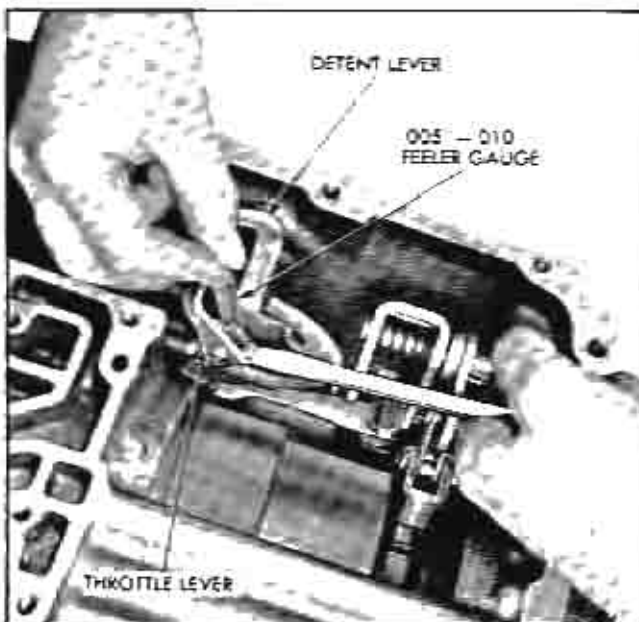

Fig. 148 Installing Inside T.V. Lever
4. Tighten set screw while holding lever as shown in Fig. 148.
8. Using .005"-.010" feeler gauge between inside TV lever and detent lever (Fig. 148) press TV lever onto TV shaft as far as possible and *tighten lock screw to 10-12 lb. ft. torque.*